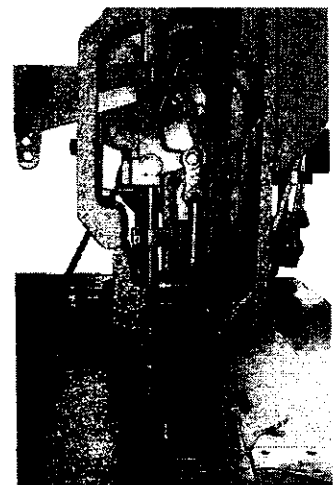

Fig.27
3. Height of the needle bar (Fig. 27) .